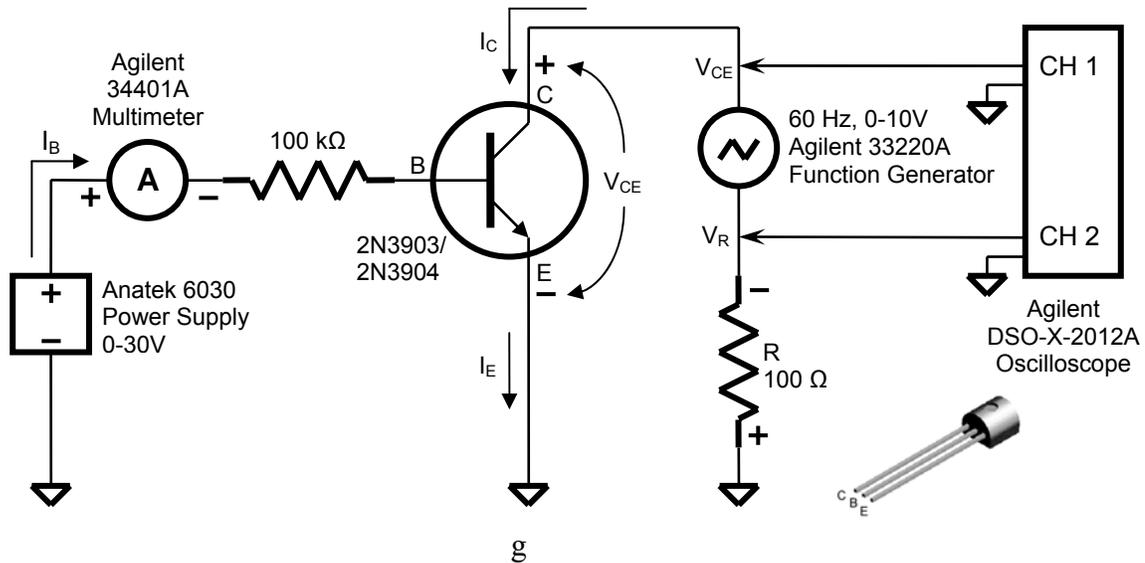

Figure 1. Oscilloscope Curve Tracer Schematic for NPN transistor
1. Construct the circuit shown in Figure 1. Set the Function Generator to output a sine wave of 60Hz sweeping from 0V to 10V and set the power supply to zero volts.
1. Construct the circuit shown in Figure 1. Set the Function Generator to output a sine wave of 60Hz from 0V to 10V and set the power supply to zero volts.